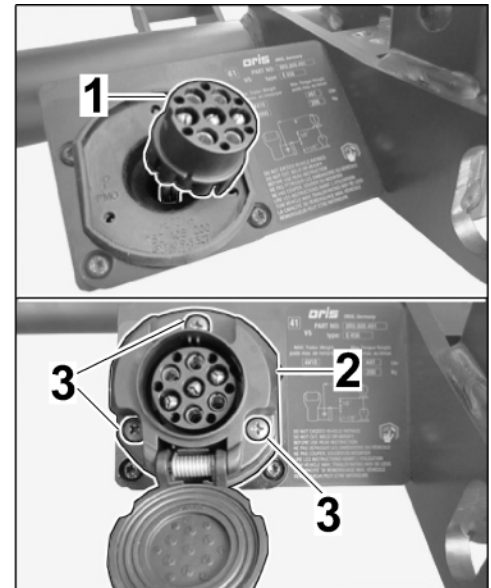

Figure 15
3.1.2 Thread trailer socket through holder plate on towbar system (⇒ *Figure 15-top*).
Secure trailer socket on the holder plate with three screws (⇒ *Figure 15*).